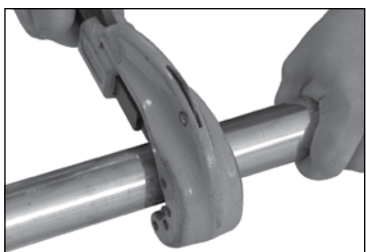

Figure 1 — Cut tube to desired length
1. Select clean, undamaged copper tube and cut to desired length. Cut tube end square using a tube cutter or fine-toothed saw. Do not crimp over damaged, scratched, gouged, or otherwise damaged tubing ends. Do not crimp over etch print streams on tubing. (Figure 1).